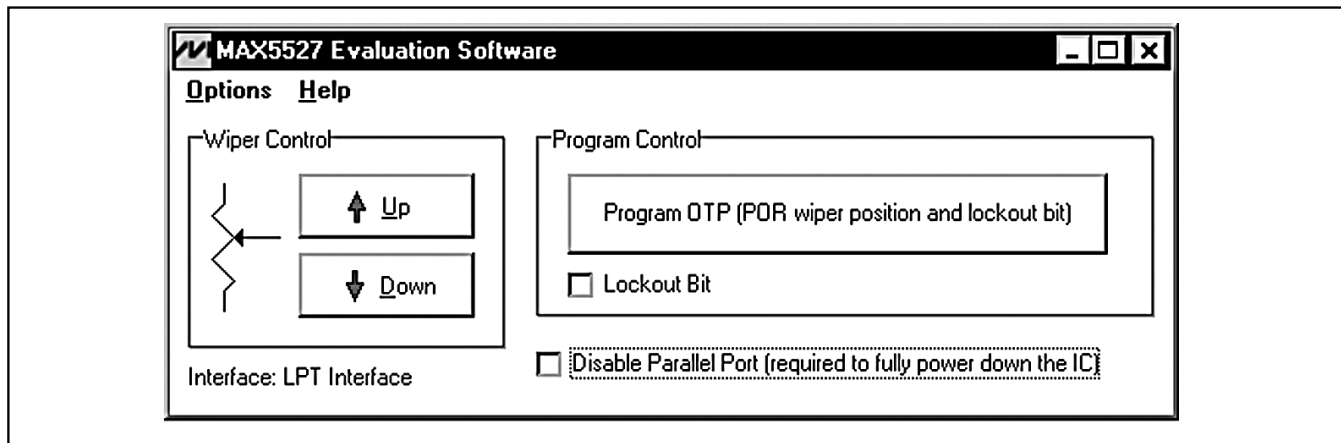

Figure 1. MAX5527 EV Kit Software Main Window
- 15) Wait until the program automatically detects the MAX5527 and displays the main window (Figure 1). The MAX5527 is now in its default power-on-reset (POR) mode (wiper is at midscale for an unprogrammed device).